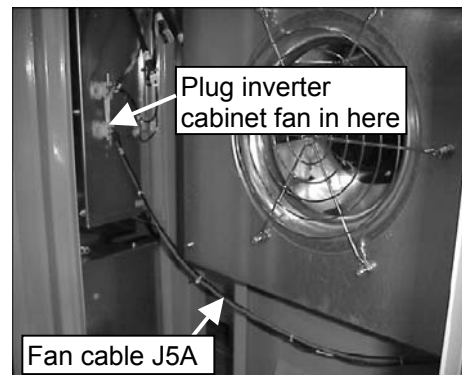

Figure 26: Cooling Blower Control
- Connect the interface cable labeled J5A coiled-up on the Line Side Converter to the corresponding connector J5 in the Motor Side Inverter enclosure. Figure 26 indicates proximity to the cabinet blower.